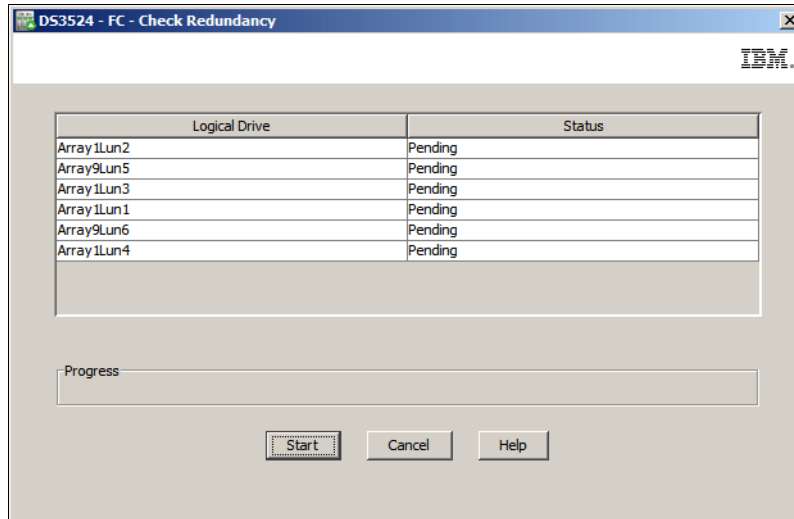

Figure 14-153 Check Redundancy
3. Read the information and click the **Yes** button to display the Check Redundancy window as shown in Figure 14-153 on page 434.